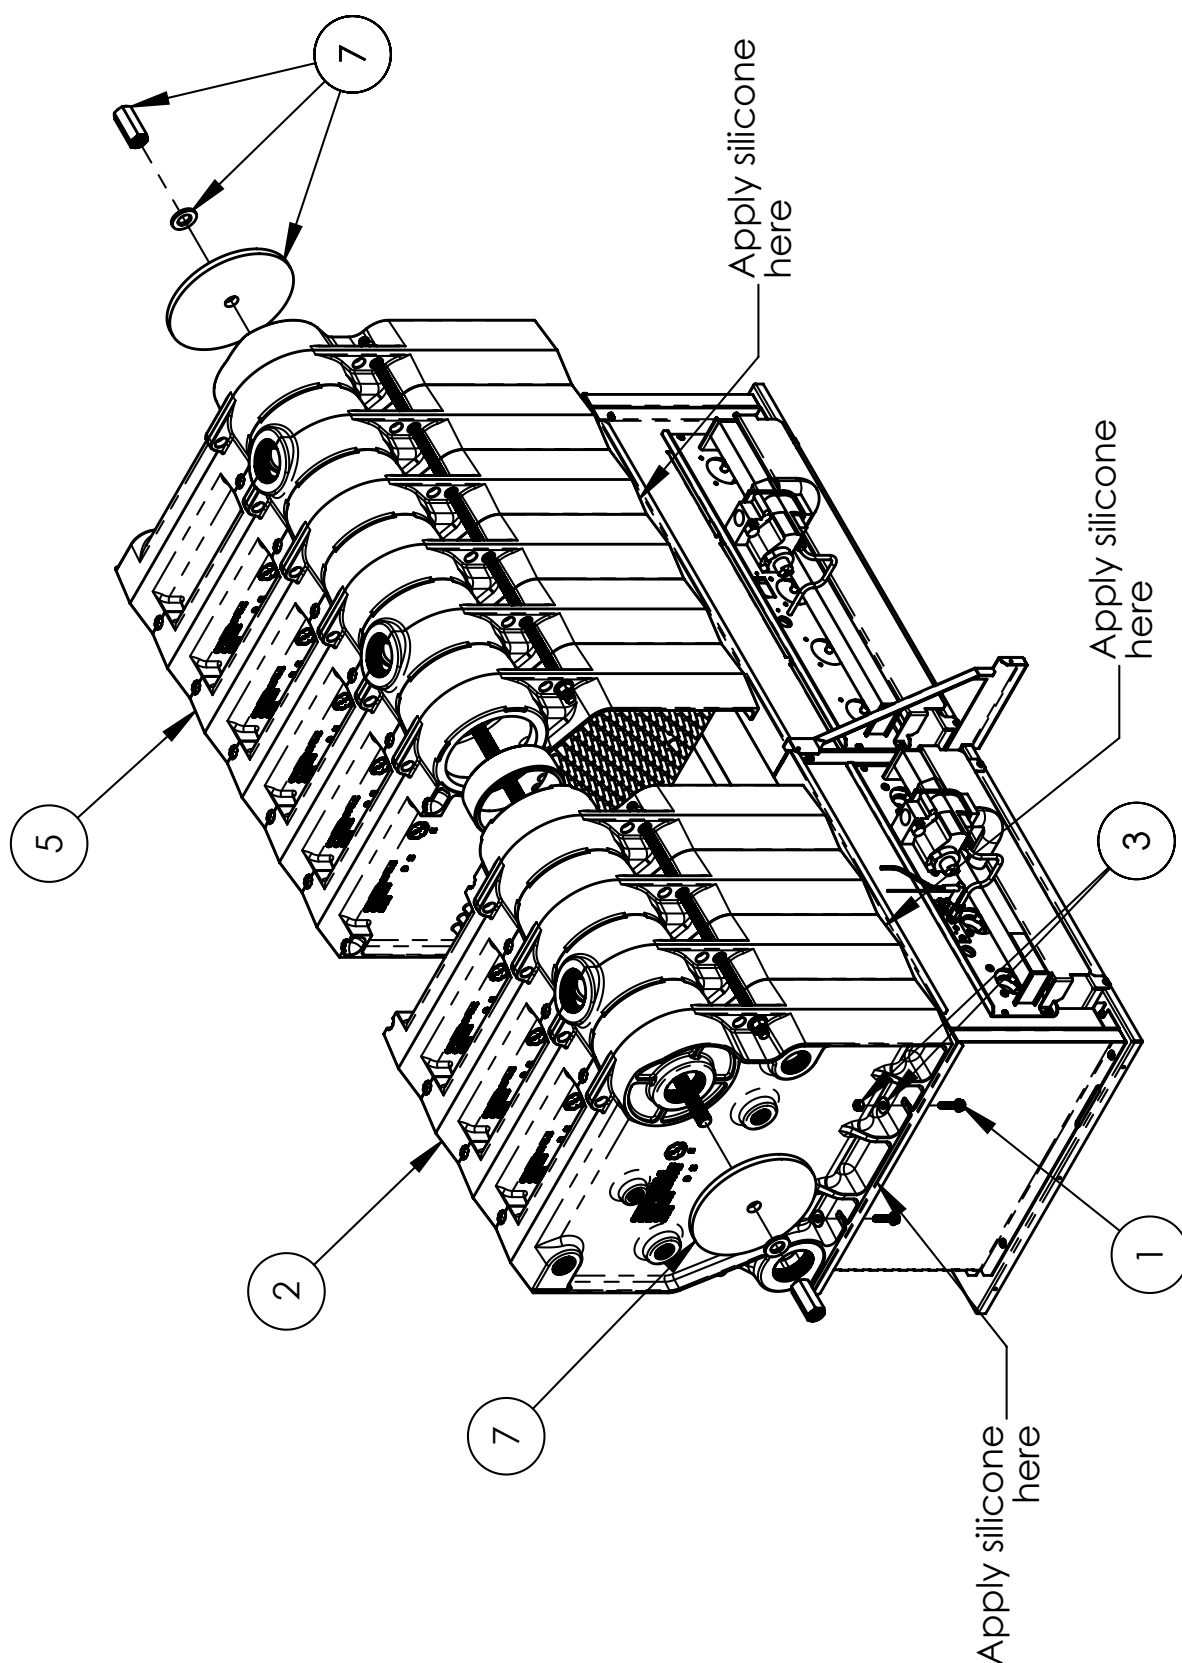

Figure 5-2: Split Section and Base Assembly
20. Apply provided SIL-BOND RTV 6500 to entire perimeter of base/section assembly joint. See Figure 5-2.